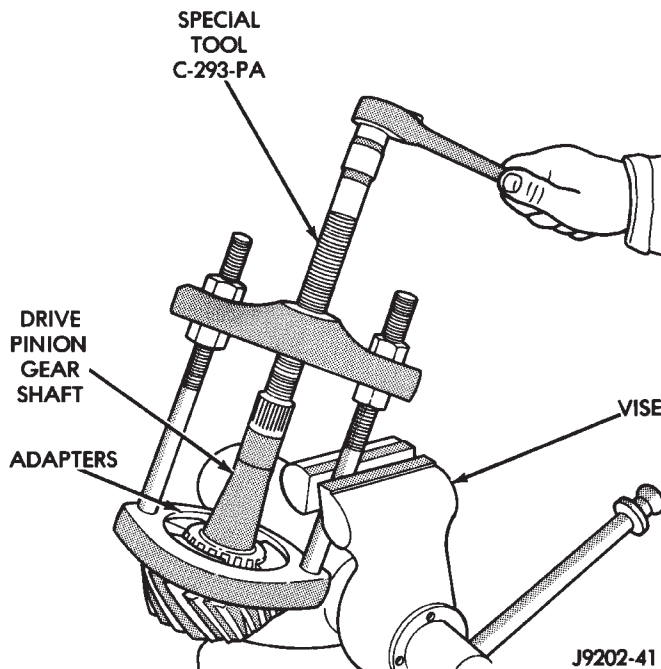

Fig. 29 Inner Bearing Removal
(9) Remove the inner bearing from the pinion with Puller C-293PA and Adapter C-293-39 (Fig. 29).